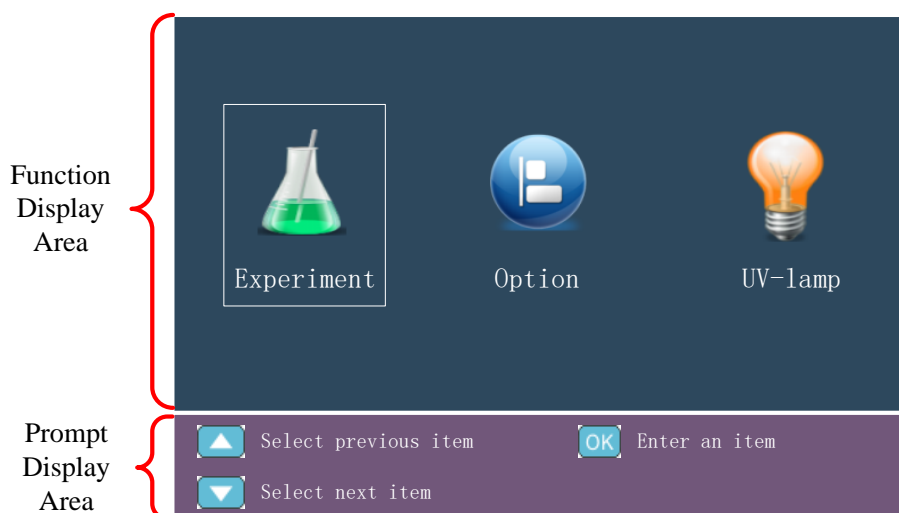

Figure 4-3 Instrument System Software - Standby Interface
The instrument system software will automatically enter the standby interface after self-check and initialization. The standby interface consists of two parts: the function display area and the prompt display area, as shown in figure 4-3.
- ▶ According to the operation prompts on the stand-by interface, as shown in the figure 4-3. The <  **Experiment** > icon is selected, User could press  to enter the experiment interface, or press  and  to select another icon.